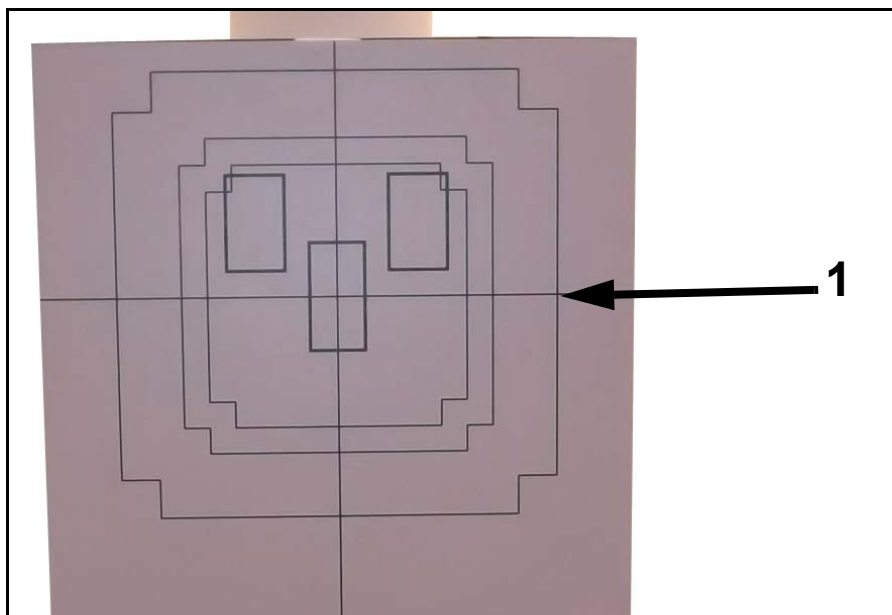

Figure 5-7. Front Panel
- 6 Pull the velcro-backed panel (1 in Figure 5-7) off the wallstand.